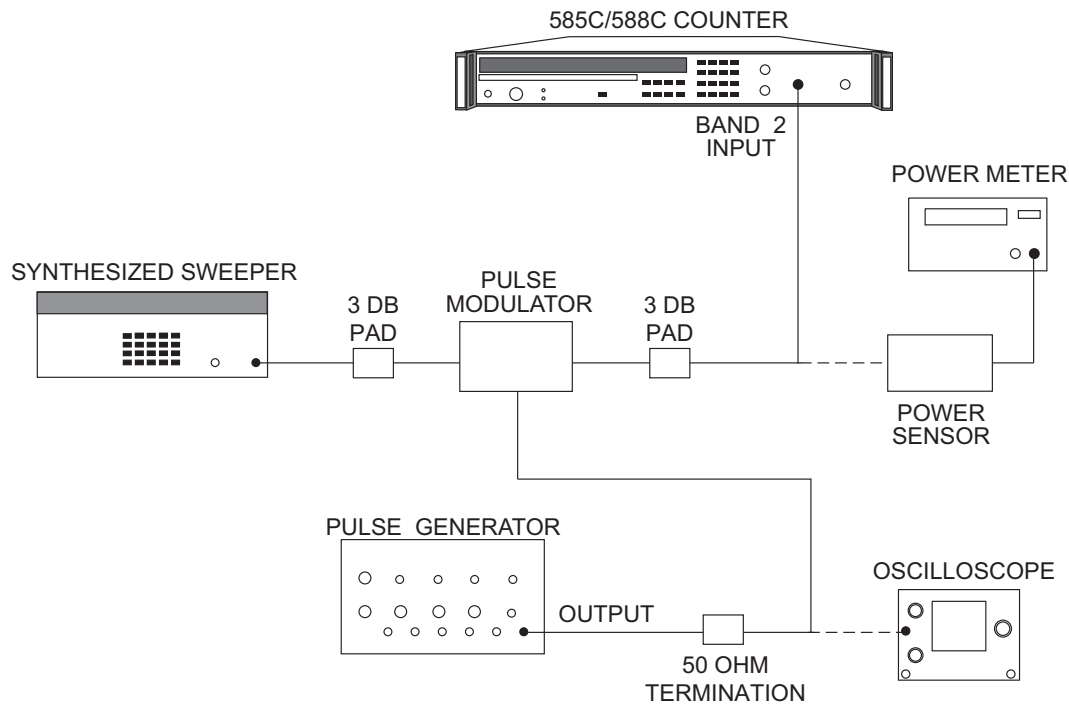

Figure 6-5. Band 2 Pulsed Signal Range and Sensitivity Test Setup
1. Connect equipment as shown in Figure 6-5.